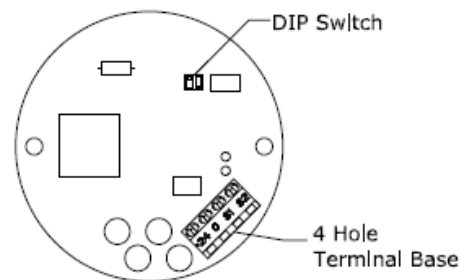

Fig. 5
**Xenon Type:** (see Fig. 5)
Use **DIP Switch** with 2 binary codes on the Xenon **Beacon PCB** (see fig. 5/7) for frequency adjustment.